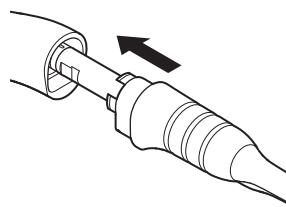

Figure 84 – Tip Sleeve Installation
- Slide the sleeve over the tip (Figure 84). Push the sleeve into the handpiece until it stops.